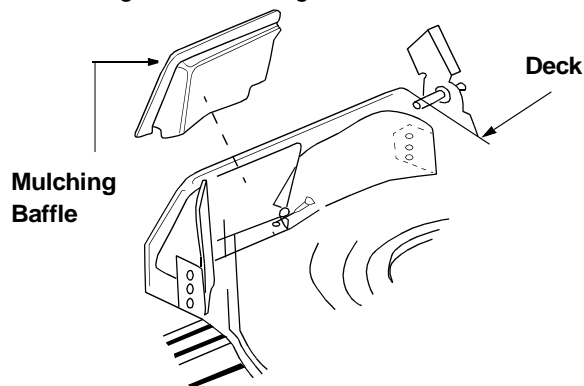

Figure 7
- To remove the mulching baffle, lift the rear discharge door on the mower. Remove the mulching baffle. See Figure 7.
- Lift the rear discharge door and install the mulching baffle. See Figure 7.